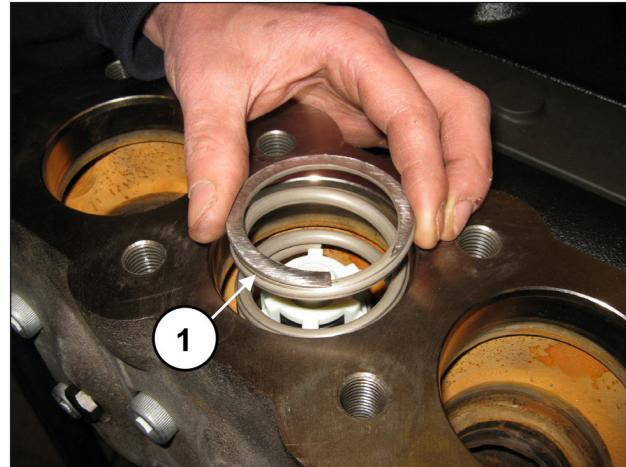

Fig. 99
Remove the spring (pos. ①, Fig. 99).